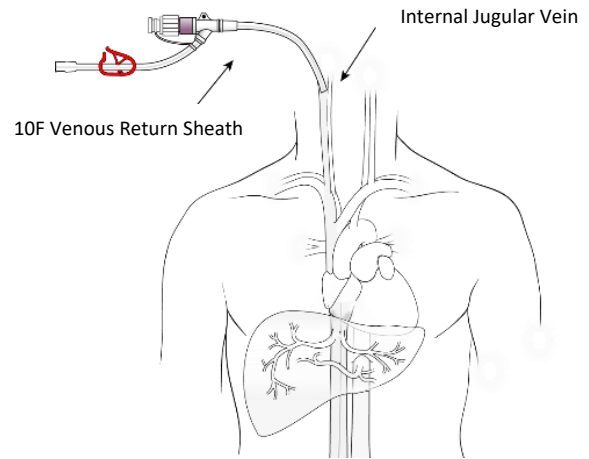

Figure 22
- (a) Attach the stopcock to the sheath side port tube. Using standard Seldinger technique (with ultrasound guidance), insert the venous return sheath, into the internal jugular vein (preferably the right side internal jugular vein, see Figure 22). Flush the sheath with sterile heparinized normal saline. Close the stopcock. Use of sonographic guidance and a single anterior wall puncture of the vein are required to avoid inadvertent carotid artery puncture. If a carotid artery puncture is inadvertently made, the procedure must be aborted and postponed to a later date. Insert the obturator through the valve post placement of the sheath.